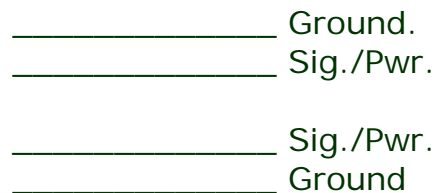

Figure 3b
Two of these three problems can be alleviated with the stack-up shown in Fig. 3b, where the two outer planes are ground planes and power is routed as a trace on the signal planes. The power should be routed as a grid, using wide traces, on the signal layers. Two added advantages of this configuration are that; (1) the two ground planes produce a much lower ground impedance and hence less common-mode cable radiation, and (2) the two ground planes can be stitched together around the periphery of the board to enclose all the signal traces in a faraday cage. From an EMC point of view this configuration, if properly done, is the best stack-up possible with a four-layer PCB. Now we have satisfied objectives, (1), (2), (4), and (5) while using only a four-layer board.